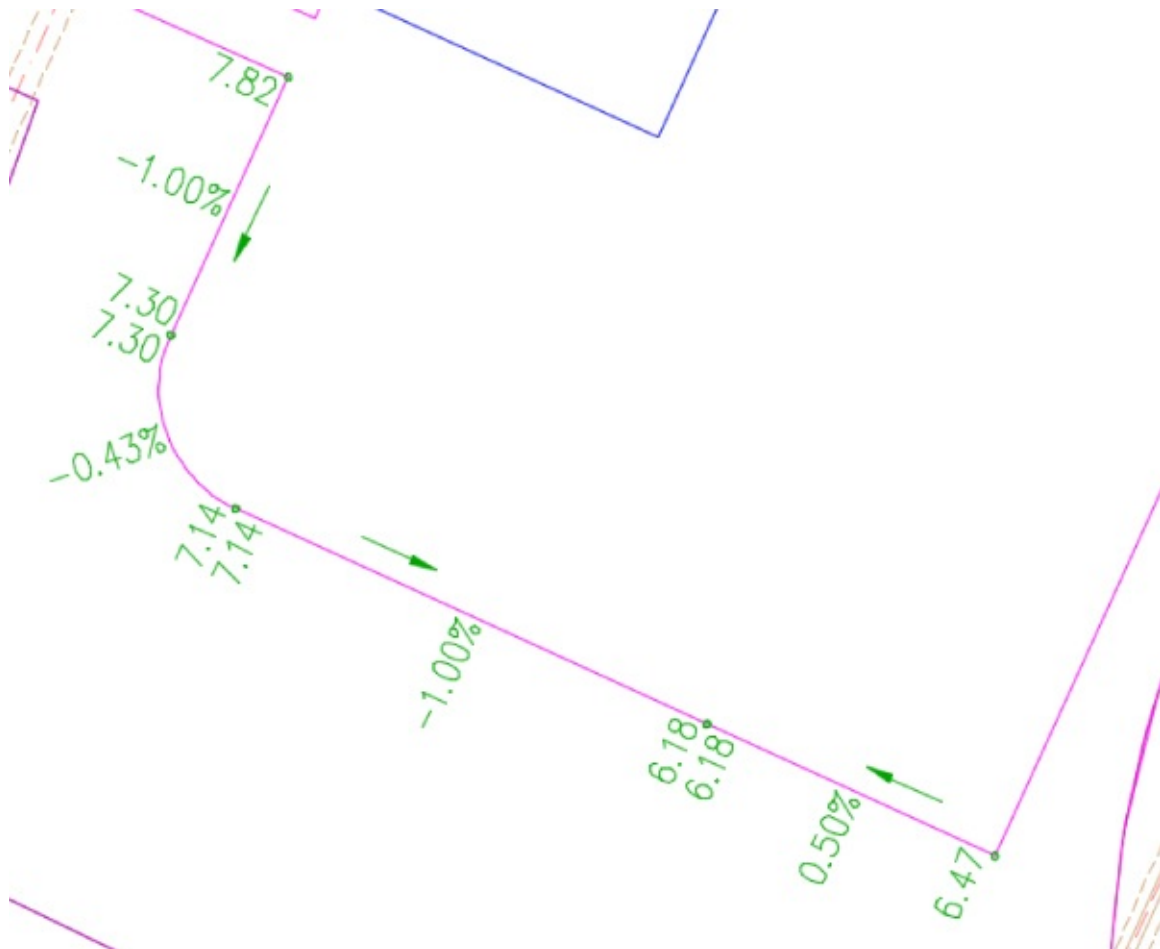

Figure 14.31 Feature line grade labels in the Imperial drawing
5. At the `Select point on entity:` prompt, pick the several segments on the magenta feature line, as shown in Figure 14.31.